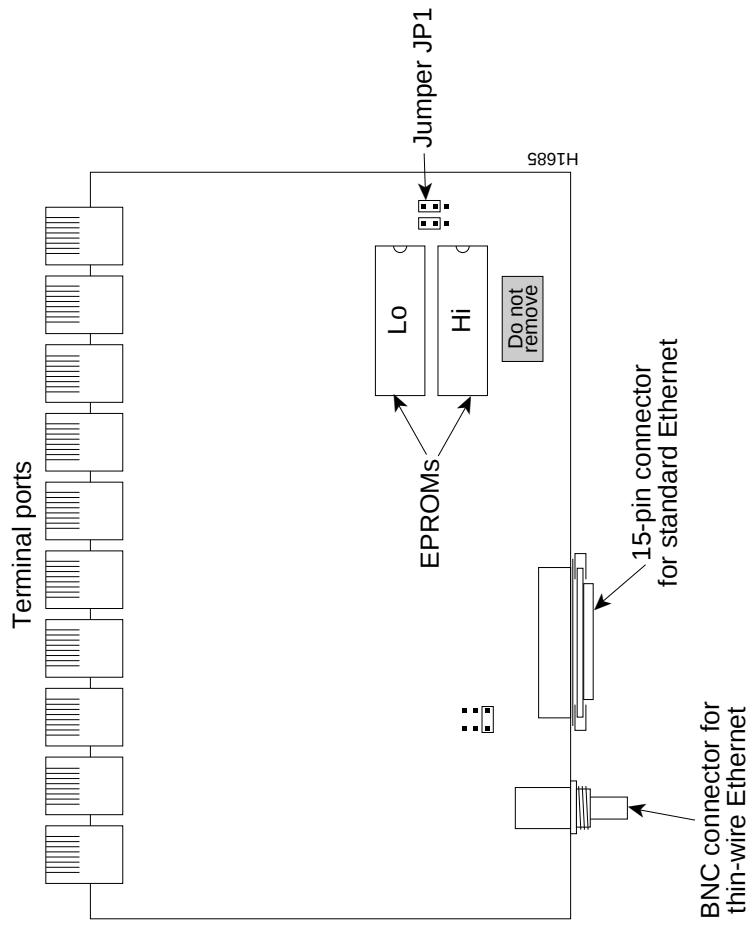
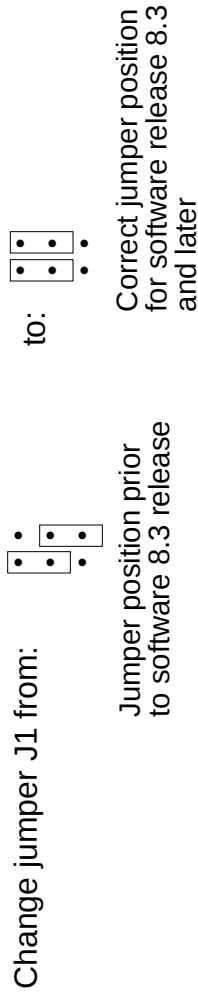

Figure 4-1 STS-10x System Circuit Card
Figure 4-3 JP4 Jumper Settings
The system card, and the location of the EPROMs and jumpers, are shown in Figure 4-1.
Step 5: On the system card, locate the EPROMs shown in Figure 4-1.
Step 7: To insert the new EPROMs, align the EPROM notch with the notch in the socket. Figure 4-1 illustrates the correct orientation of the EPROMs.
Step 8: Locate jumper array JP1, shown in Figure 4-1. Note the position of the jumpers. If the software version you are replacing is prior to release 8.3, the jumpers will be set as shown in Figure 4-3. The jumper settings are shown as viewed from the rear of the chassis, looking toward the front.
Step 9: Move the right jumper up one post, so it is flush with the left jumper, as shown in Figure 4-3.